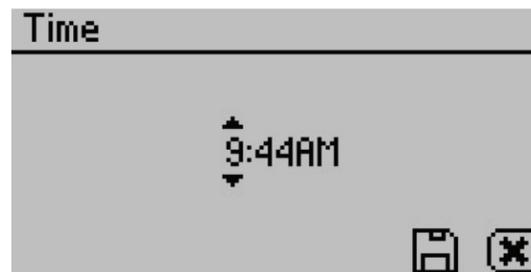

Figure 34 Time option
- **Time.** Select to set the time in the instrument. Use **RIGHT** and **LEFT** to change between the hour and minute categories and **UP** and **DOWN** to change the individual values (Figure 34). The hour setting automatically changes between **AM** and **PM**. The time is recorded with each water activity reading.